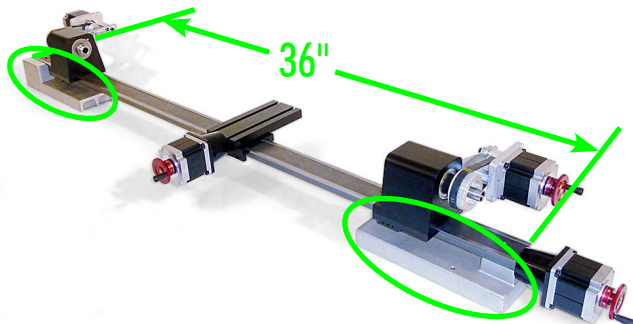

FIGURE 1—The split base is indicated by the green ovals.
2. If needed, we can build a lathe with a maximum bed length of 36", and we cut the base in half for support at each end of the bed (see Figure 1).